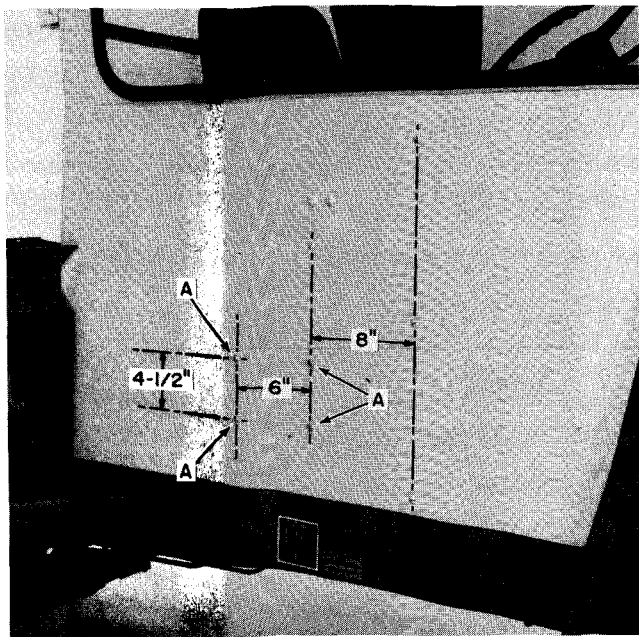

FIGURE 2-1
3. Drill four $9/32$ " holes in the right cab wall as shown at A, Figure 2-1.